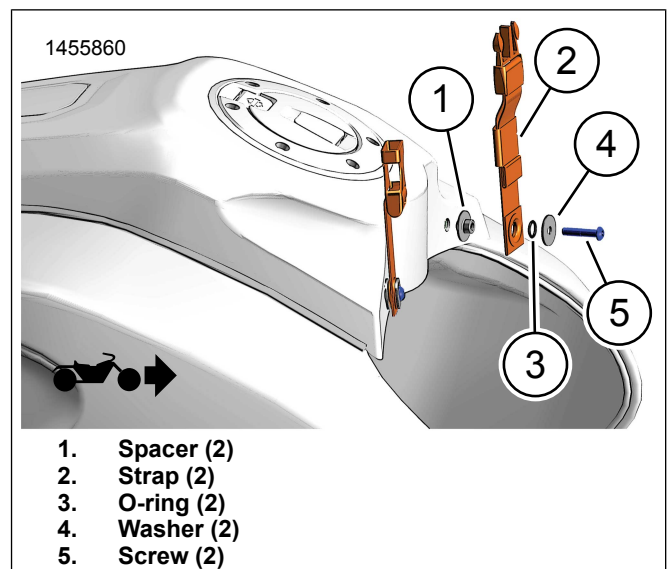

Figure 3. Front Strap Install
1. See Figure 3. Install front mounting straps to tank console.
- a. See Figure 3. Install spacer (1), mounting strap (2), O-ring (3), washer (4) and screw (5).